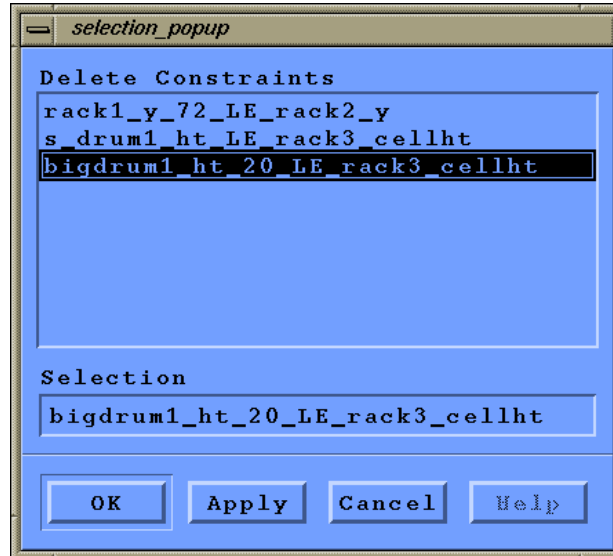

Figure 15: Constraints Present in a Currently Opened Vault
**Modify Constraint:** This option is for modifying/viewing a particular constraint. When this option is selected the dialog box shown in Figure 15 appears, which shows the list of constraints present in the currently